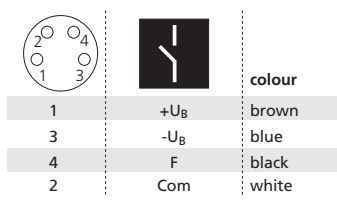

Fig. 1: Pin assignment with view onto sensor plug and colour coding of the microsonic connection cables
- Pull sensor cable through the sensor gland, connect it to the M8 sensor plug, see figure 1.